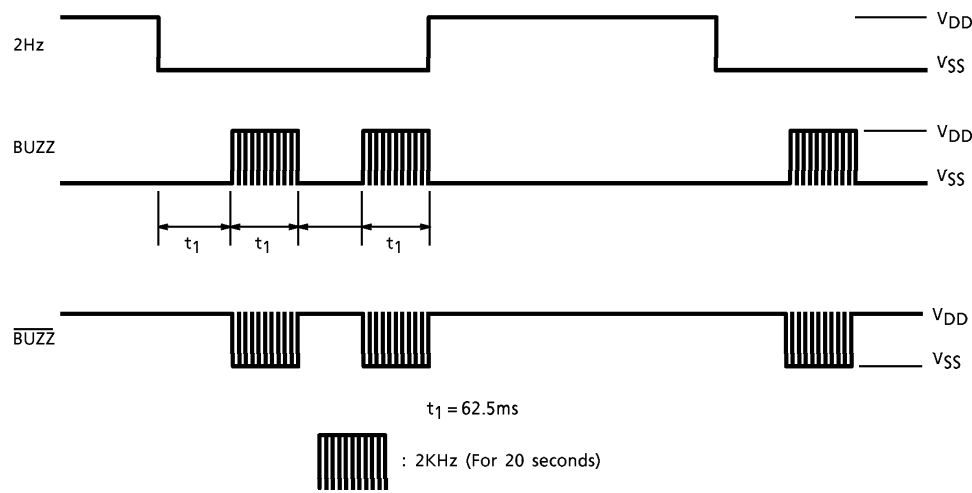

Fig.9 Alarm sound signal
- 5.2 The Calendar Display has two types. One of these in U.S.A. type, the other is Europe type like Fig.8. The selection of these types by depressing S₂ is as Fig.9.